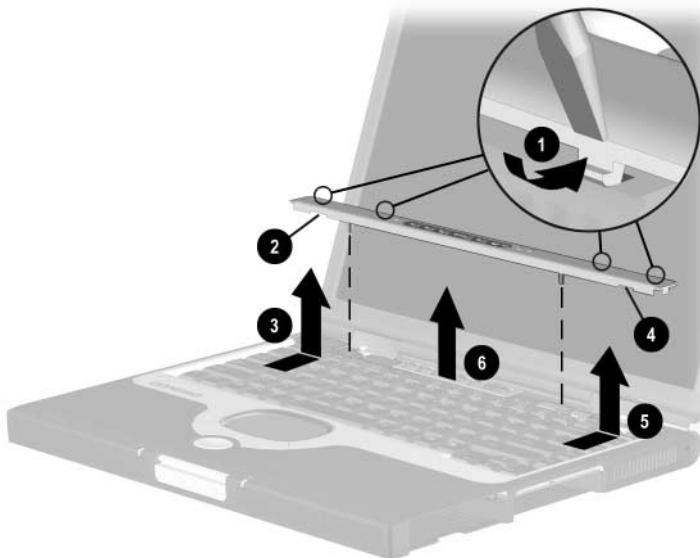

Figure 5-14. Removing the LED Cover
6. Use a flat-bladed tool to pry forward on the four clips on the LED cover ① (Figure 5-14).
7. Press the **esc** and **F1** keys to reveal the left notch ② in the LED cover.
8. Insert a flat-bladed tool into the left notch and lift the left side of the LED cover ③.
9. Press the **Pause** and **Del** keys to reveal the right notch ④ in the LED cover.
10. Insert a flat-bladed tool into the right notch and lift the right side of the LED cover ⑤.
11. Remove the LED cover ⑥.